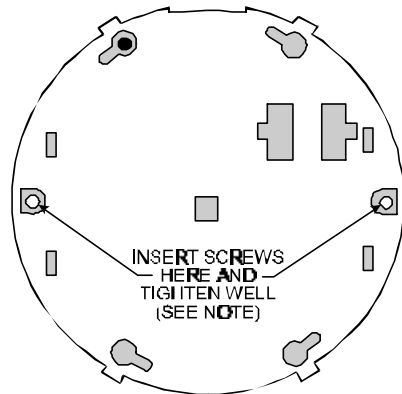

Figure 7. Securing the Cover to the Base
- 1st. Before attaching the detector unit to the bracket, it is a good practice to secure the cover to the base with two screws (supplied with the unit) through the holes shown in Figure 7. This will prevent unauthorized opening of the cover.